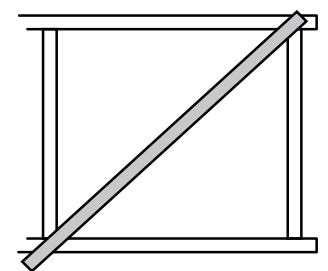
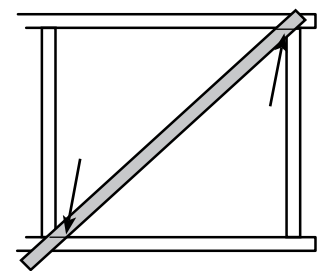

Figure 18
Figure 19
- Lay the diagonal piece across (Figure 18). Mark with a pencil (Figure 19).